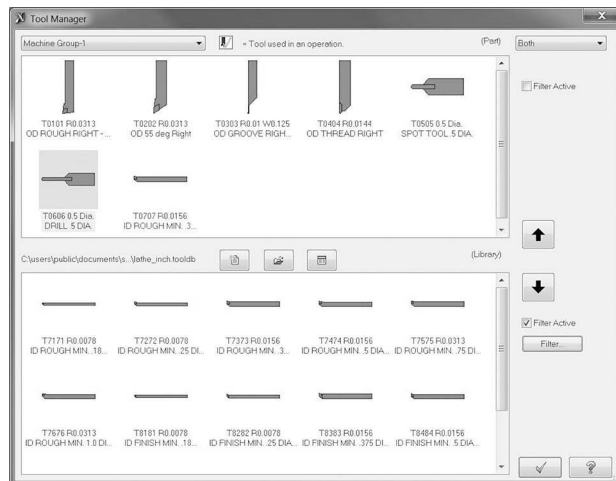

Figure 5-62 Lathe Tool Filter
- From the Menu Bar, select **TOOLPATHS**—Lathe Tool Manager Set the filters to minimize the displayed tools to display General Turning only and press OK (Figure 5-61). From the library list, select each tool determined (based on the part geometry) and double-click to add to the used list (Figure 5-62). Press OK when all tools are selected.